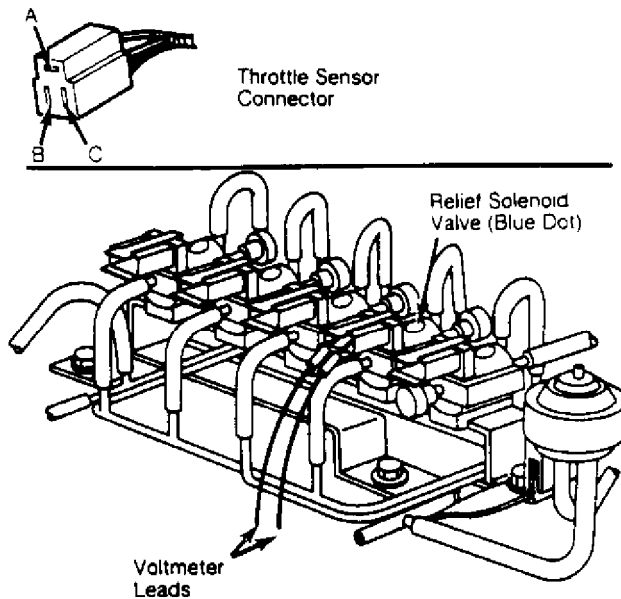

Fig. 4: Testing Relief Solenoid Valve Signal
2) Disconnect connector from throttle sensor and connect a jumper wire between terminals "A" and "C" of connector. See Fig. 4. Start engine and increase engine speed.